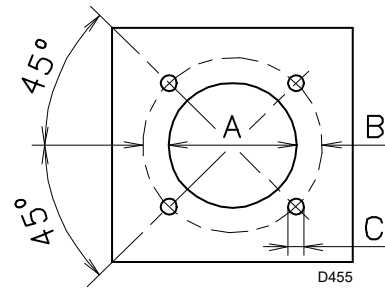

Fig. 15
Drill the combustion chamber locking plate as shown in Fig. 15 (Tab. K). The position of the threaded holes can be marked using the thermal screen supplied with the burner.
- Fit the entire burner onto the boiler hole prepared previously (Fig. 15), and fasten with the screws supplied.